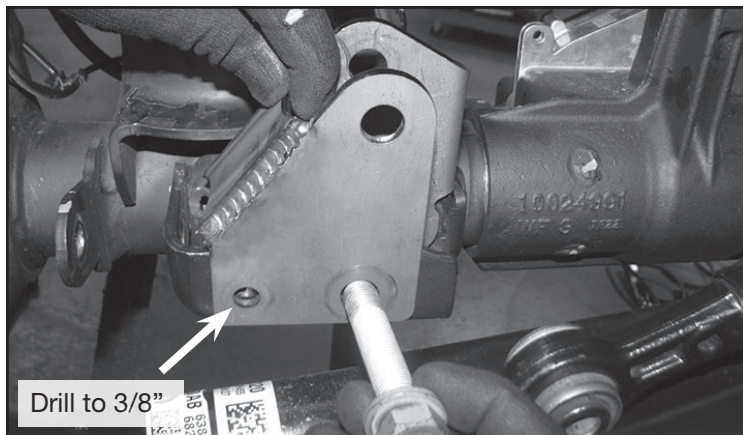
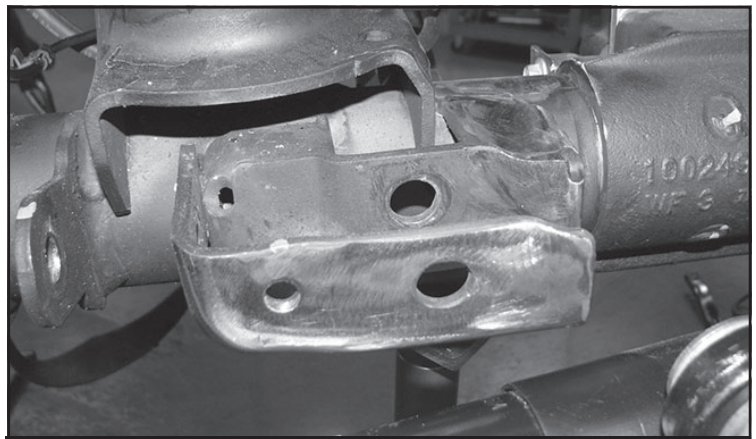

FIGURE 7 - STEP 9
FIGURE 8 - STEP 9
9. Install FT50617 (Front track bar bracket) to the factory mount using stock bolt. **SEE FIGURE 7.** Mark the front hole to drill using the new bracket as a guide. Remove and drill the hole to 3/8". Sand the factory bracket down to bare metal. **SEE FIGURE 8**